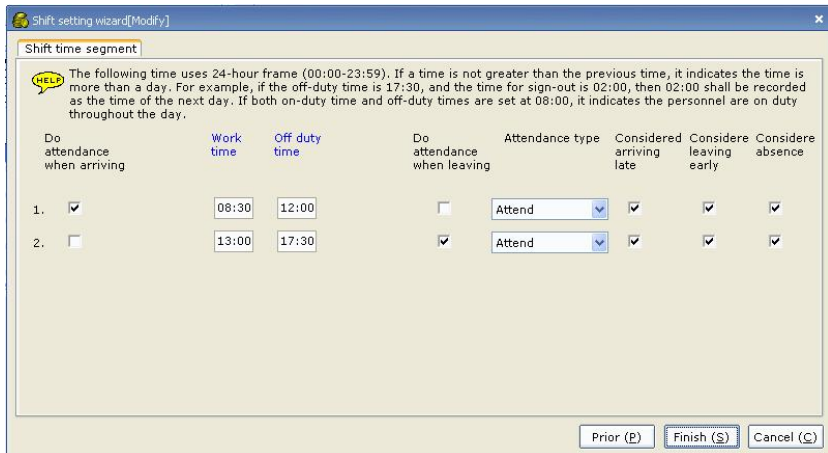

Figure 3.3
2. Modify working time (time in and time out) as the company’s working time, and click “Finish”, as shown in Figure 3.3.